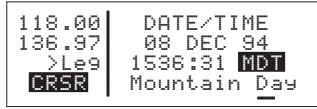

Figure 4-191
3. Change the time zone with the right inner knob, if desired (figure 4-191). A listing of the time zones and their abbreviations is contained in section 4.2, "Turn-on and Self Test".